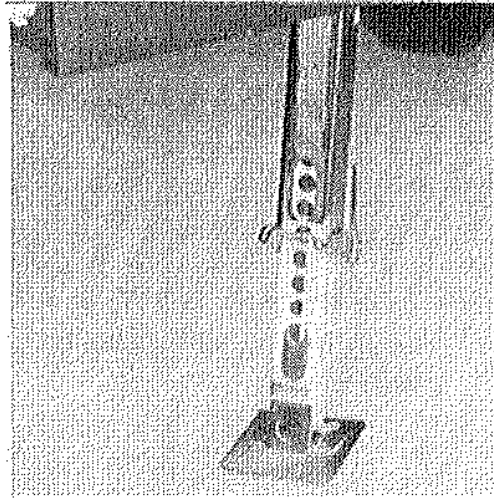

Fig. 4
4. Now release springloaded, self-storing stabilizer jacks. Base of this jack is welded to frame. Using 1 or both hands, grip jack and push toward center of camper approximately 5/8". It will require fair amount of effort to release and swing down as in Fig. 4. Now extend the jack "foot" by pushing it to the ground. More tension can be placed on the jack feet by using the long jack handle supplied in each unit. Be sure that not too much force is applied to the jack handle; it may cause the holes in the jack legs to expand by breaking out the dividers and cause adjustment problems in the entrance door. One notch should